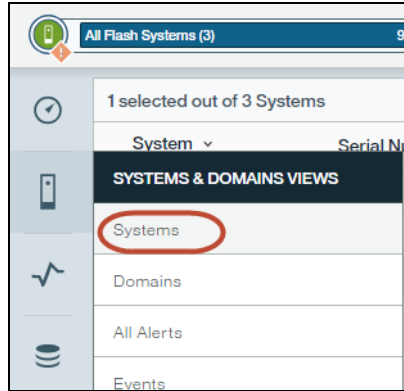

Figure 2-14 Systems menu
1. From the Hyper-Scale Manager GUI, click the **Systems & Domains Views** icon and select **Systems** from the menu, as shown in Figure 2-14 on page 63.